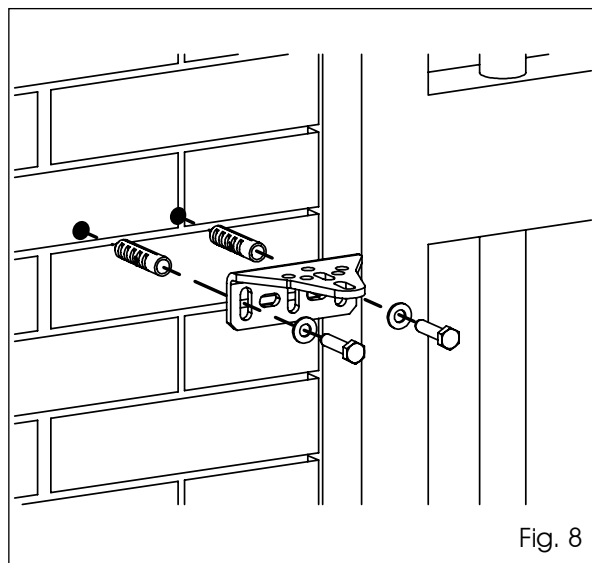

Fig. 8
1. Secure the fixed part of the rear bracket in the position determined previously, using a suitable assembly method depending on the material of the pillar. In case of steel pillars the bracket may be welded directly to the them, see Figures 8 and 9.